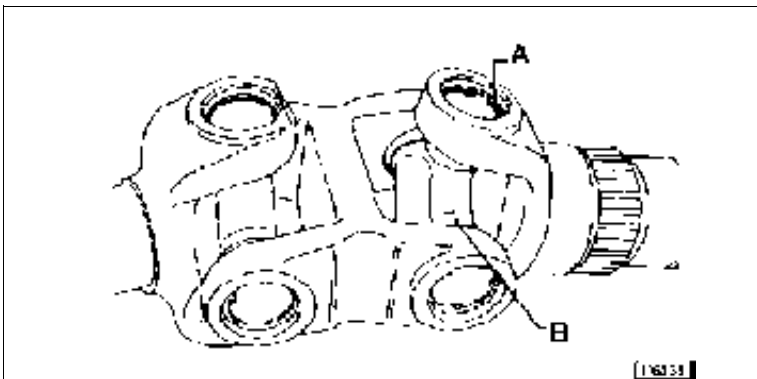

Fig. 14 - Twin universal joint.
- Remove both snap rings **A** from one cross journal **B**. A non-ferrous metal hammer and punch may help in carrying out this operation, (see Fig. 14).